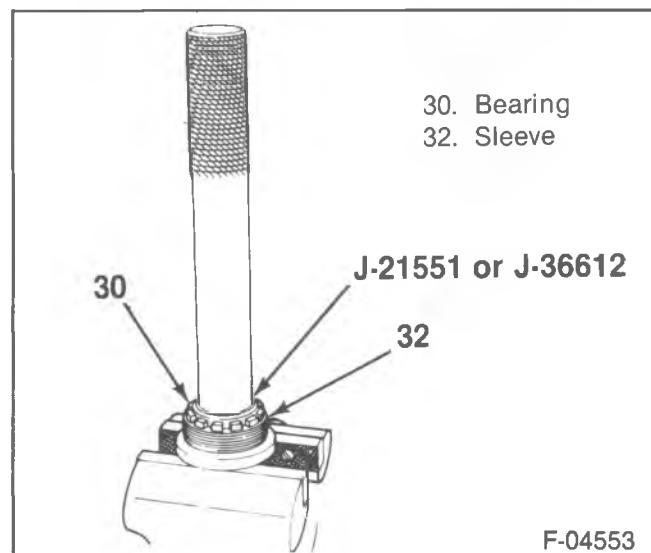
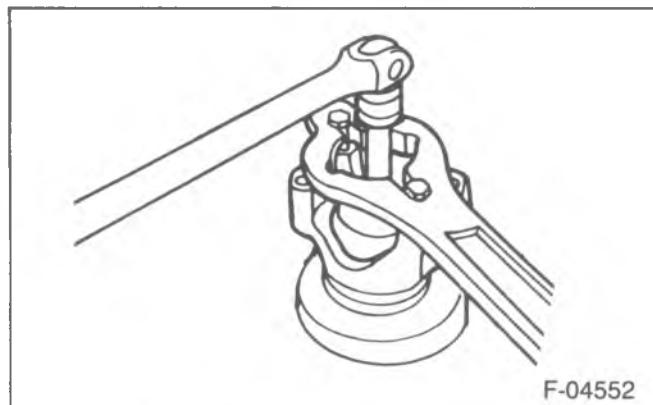

Figure 92—Removing and Installing Adjuster Sleeve Bearing
Figure 93—Removing the Flange
14. Bearing (30) from the adjuster sleeve (32) using J-21551 for the K-1-2 or J-3661 for K-3 and J-8092 (figure 92).
15. Pinion flange nut (46) and washer (45) using J-8614-01.
16. Flange (44) and deflector (43) using J-8614 (figure 93).
- 13. Bearings (30) into the sleeve (32) using J-33788 (figure 92).
- Thread the sleeve (32) into the case.
- 14. Side bearing cups (35) into the carrier case (29) using J-36603.
- Place the differential case assembly (35) into the carrier case half which contains the pinion gear.